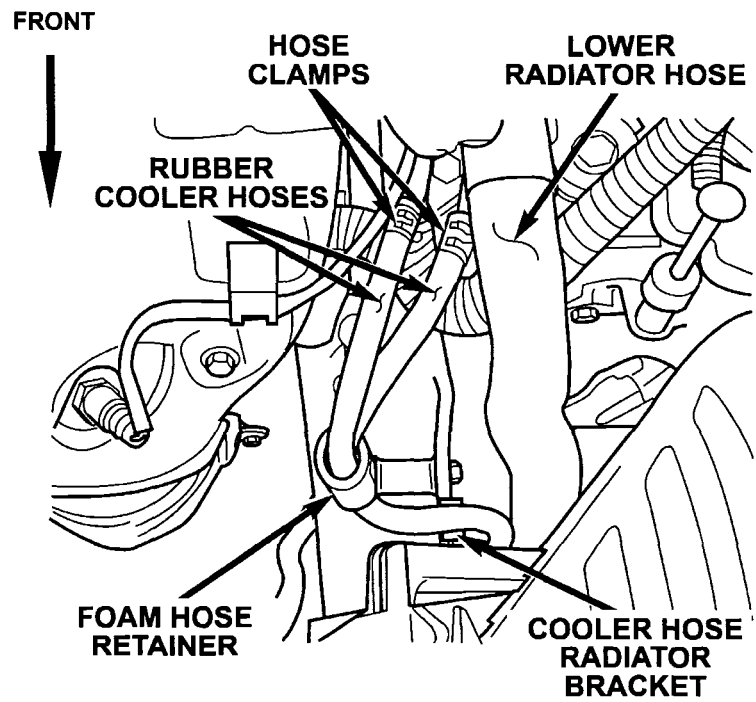

Figure 2 – Four Cylinder Engine Configuration Shown
3. Using 90 degree angled jaw needle nose pliers, squeeze and then slide each of the four (4) cooler hose clamps off of the fitting toward the center of the hose (Figure 2).
5. Remove the cooler hose assembly from the bracket on the lower edge of the radiator and discard the old hoses and clamps (Figure 2).